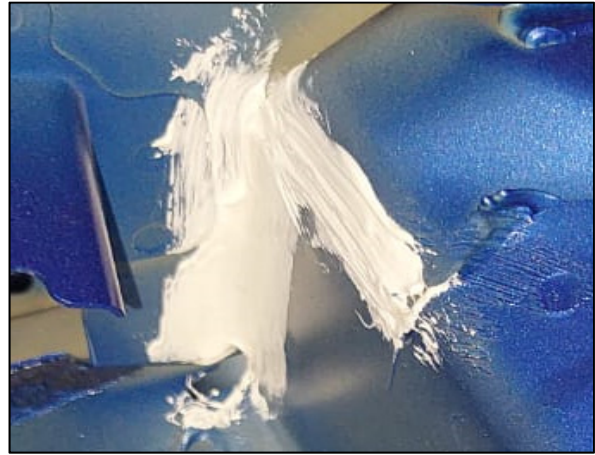

Figure 22
- Figure 22 shows the cowl area after the joint seams have been resealed with the brushed on seam sealer.